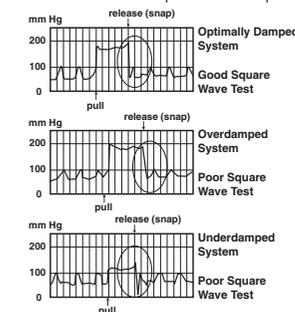

Fig. 5: Waveform response to 'Square Wave Response Test'. See text for details.
- Check System Dynamic Response with the 'Square Wave Response Test'. SEE Fig. 5.
- Compare obtained pressure waveform to those presented in Figure 5.